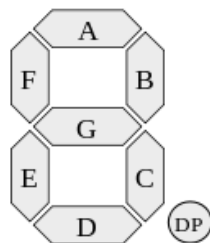

Figure 6.1: Segments of a 7-segment display
2. Develop a truth table for a decoder that converts a 4-bit binary number into a hexadecimal digit on a 7-segment LED display. The segments of the display are labeled “a” through “g” (plus a decimal point, “dp”), as shown in Figure 6.1. It’s important to note that the display on the Basys3 board is active low (or uses “negative logic”) meaning 0 = On and 1 = Off. More information can be found in the Basys3 reference manual.